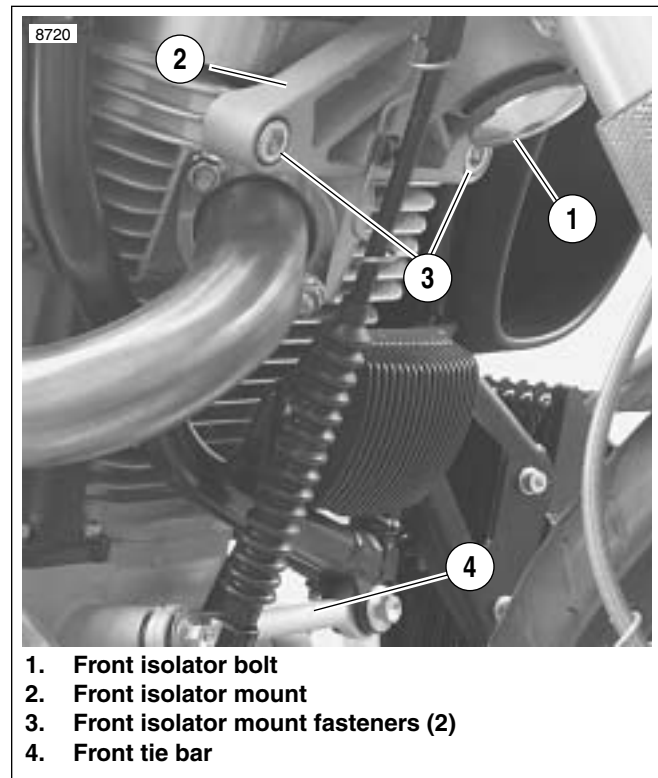

Figure 3-8. Front Isolator and Tie Bar Assemblies
2. See Figure 3-8. Insert front isolator bolt (1) through front isolator (2) and loosely thread into frame. Do not tighten at this point.
3. Install isolator mounting fasteners (3) and tighten to 49-51 ft-lbs (66-69 Nm).